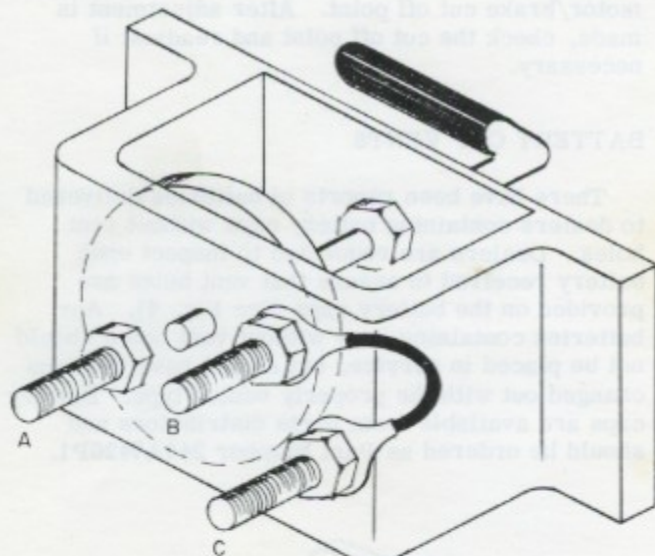
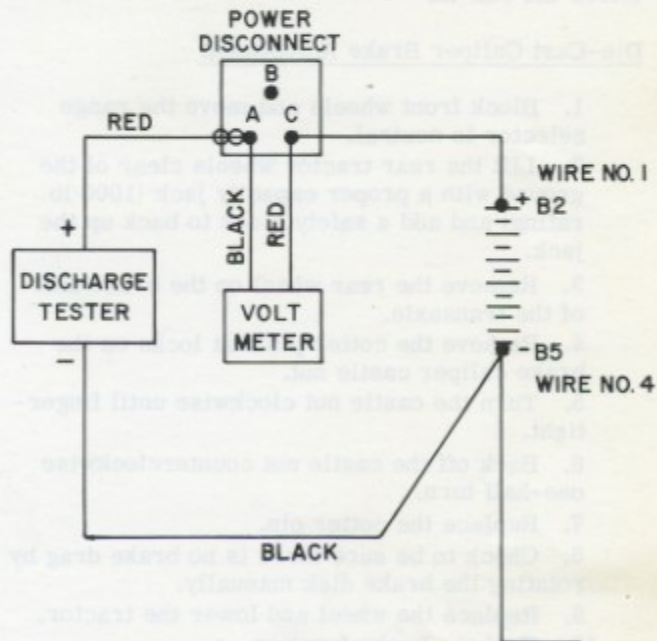

Figure 1
Figure 2
2. Connect the positive (red) cable clamp of the discharge tester to terminal A of the power disconnect. (See Fig. 1 for orientation, Fig. 2 for connection.)